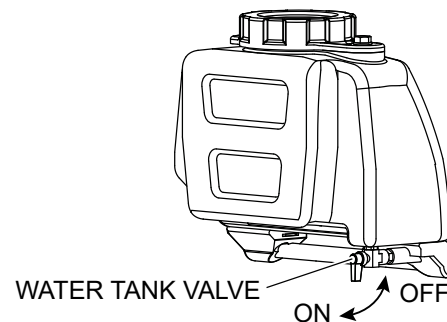

Figure 15. Water Tank ON-OFF Valve
2. Check the water tank ON and OFF valve (Figure 15).